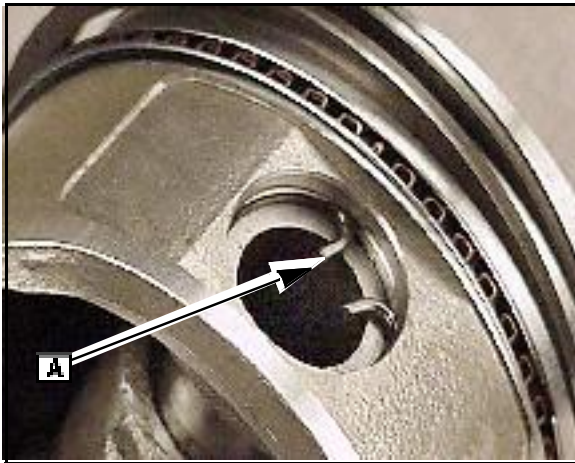

Fig. 4
1. Remove snap ring ([A] Fig. 4) from both sides of piston (if equipped).